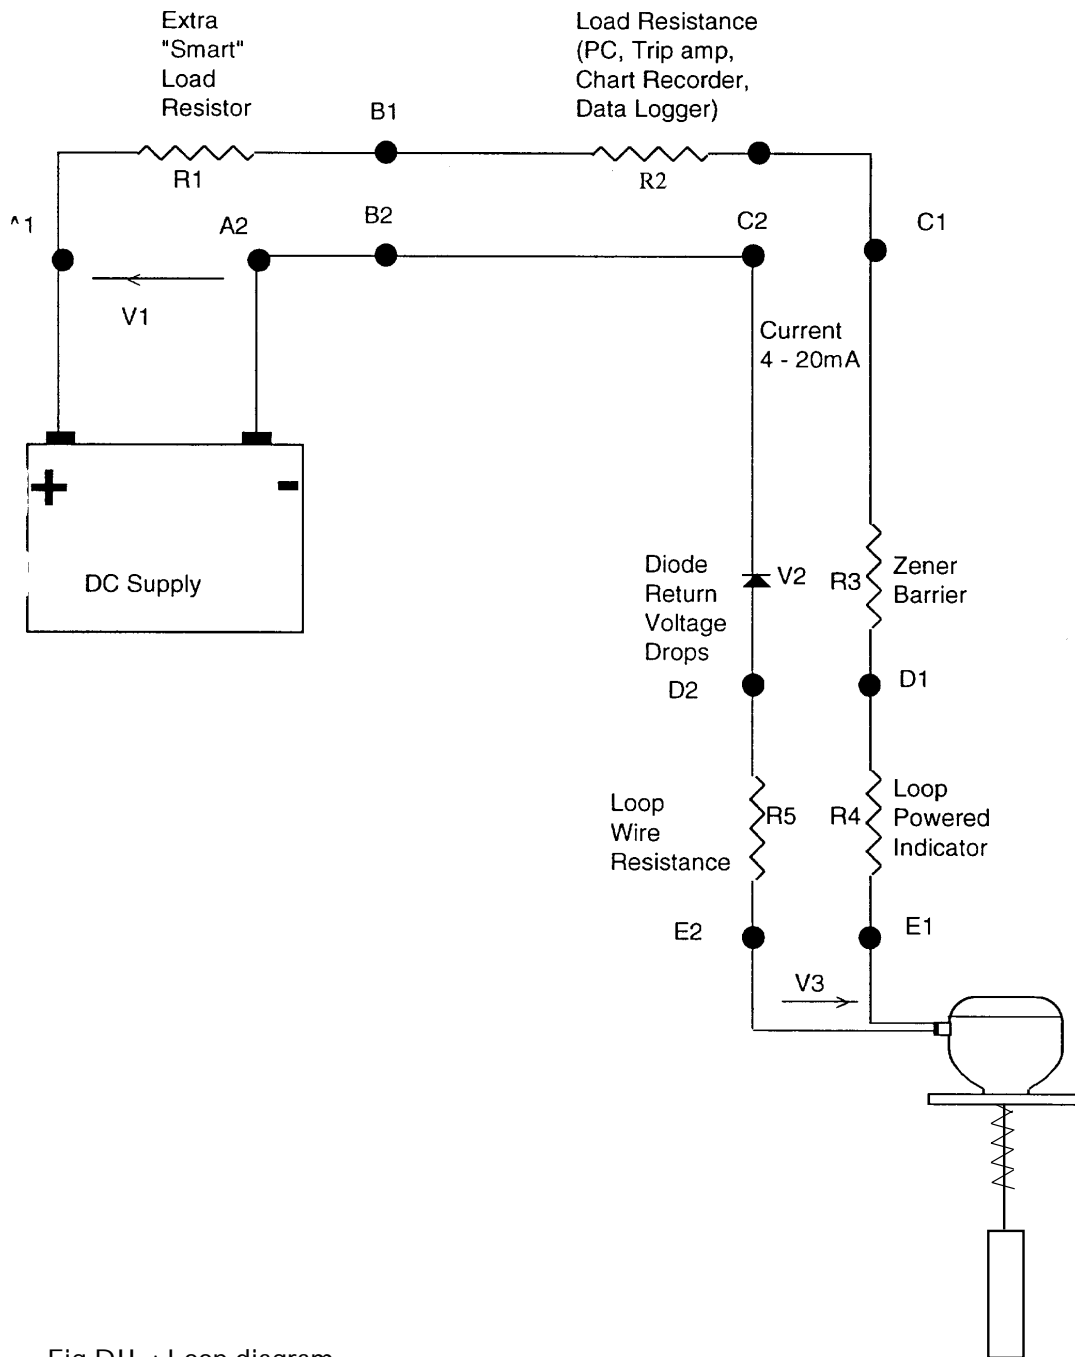

Fig D11. : Loop diagram
D.3.0. Requirements for SMART Operation (Refer to Fig. D11)
Power the Transmitter from a DC supply as shown in Figure D11. A 250 ohm (or higher value) load resistance must be incorporated in the loop.
This can be treated exactly the same as the standard Communications kit and the programme is as described in this manual. If fitted with the correct battery this unit is certified intrinsically safe, and can be used in a Zone 1 hazardous area. It can therefore be used to communicate with a transmitter using the D1-D2 or E1-E2 connection points quoted in Fig. D11 even when these are in Zone 1.